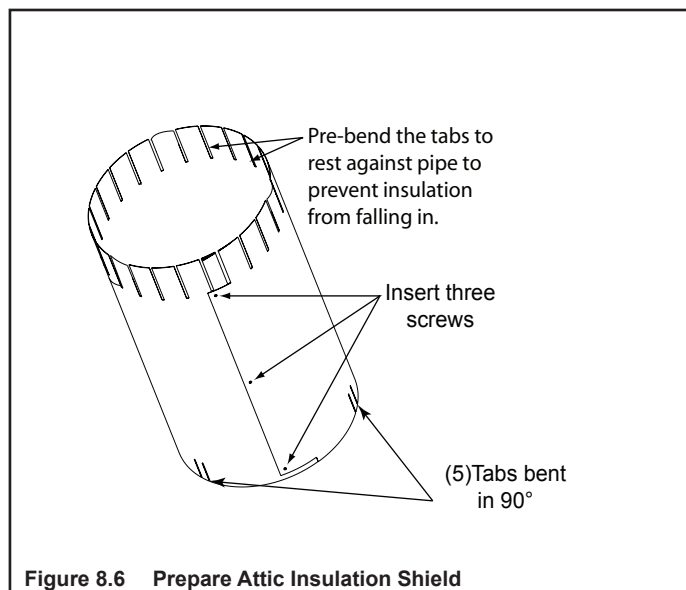

Figure 8.6 Prepare Attic Insulation Shield
- Refer to Figures 8.6, 8.7, and 8.8.
- Refer to Figure 8.6.